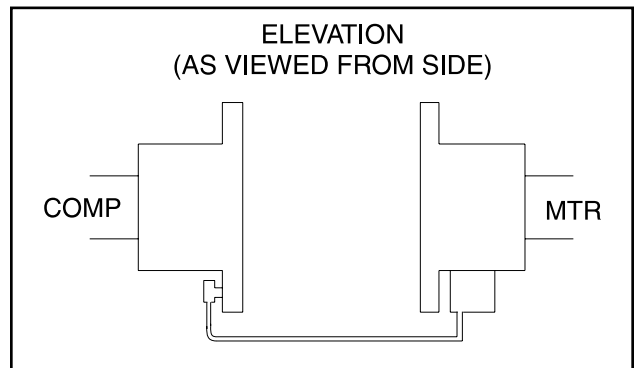

Figure 3 - Dial Indicator at 6 o'clock
4. Rotate both coupling hubs together 180° (6 o'clock position), as shown in Figure 3. At this position the dial indicator will show TOTAL angular misalignment.